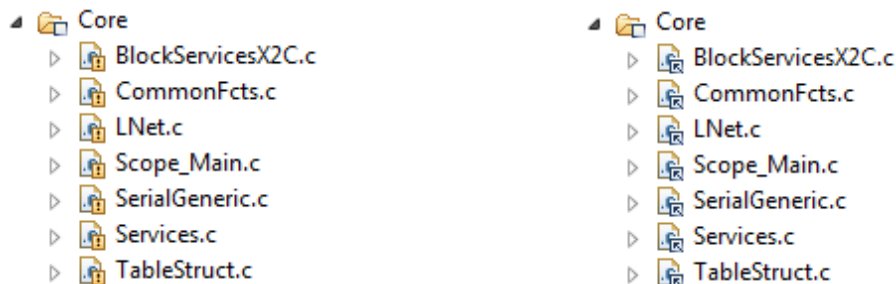

Figure 27: *Code Composer Studio* invalid (left) and valid (right) X2C root directory
3. In the *Code Composer Studio* file structure of the *Blinky* demo project there are two virtual folders *Blocks* and *Core*, which should be linked directly to the X2C directory. To ensure this go to **Project** → **Properties** drop down **Resource** and click **Linked Resources**. Double click on folder **X2C_ROOT** and set the correct link to your X2C installation directory (<X2C_ROOT>). After hitting **OK** two times there should not be any warning signs (like shown in Figure 27) at the icons for the linked files in the *Blocks* and *Core* folders.